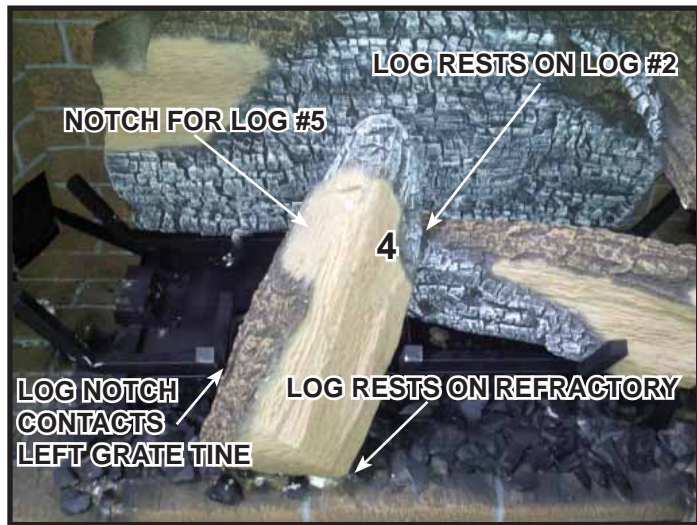
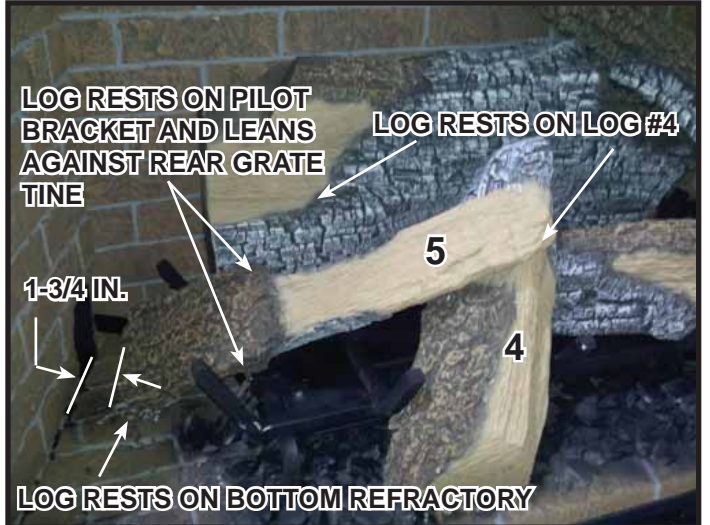

Figure 8.
Figure 9.
**Log #4 (2282-704):** See Figure 7. Place Log #4 between the left and center grate tines. The base of Log #4 should rest on the refractory. Notch on log will rest on the front left grate tine and the top of log will rest in notch on Log #2. See Figure 8.
**Log #5 (2281-705):** Locate flat area on Log #4 that will be used to position Log #5. See Figure 8. Place Log #5 into appliance as shown in Figure 9. The left side of the log will rest on bottom refractory and pilot bracket. It will also lean against rear grate tine. The right side of Log #5 will rest in notch on Log #4. There will be a space approximately 1-3/4 inches from the end of the log to the left side refractory.